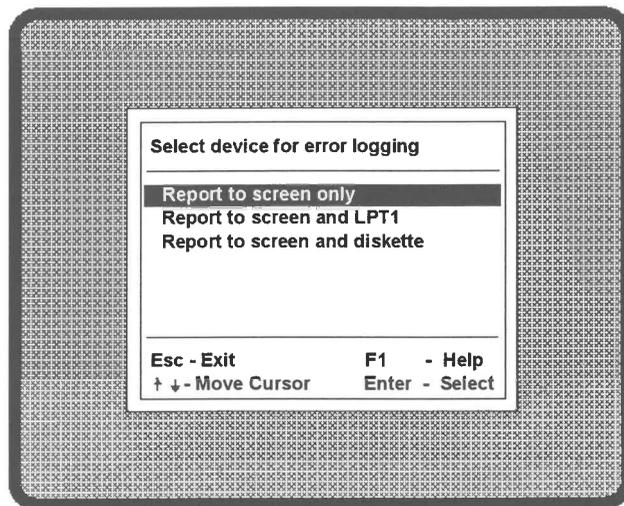

Figure 5-18 Error Logging Selection Menu
2. The **Error Logging Selection Menu** appears as shown in Figure 5-18.